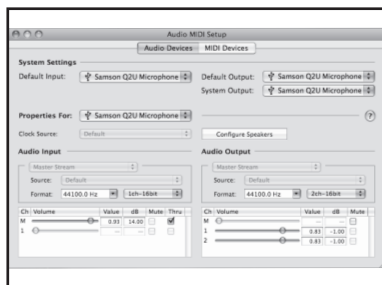

Figure 16
1. To turn direct monitoring on or off, open the **Audio/MIDI Setup** (figure 16) utility located in the **Utility** folder inside the Applications folder.